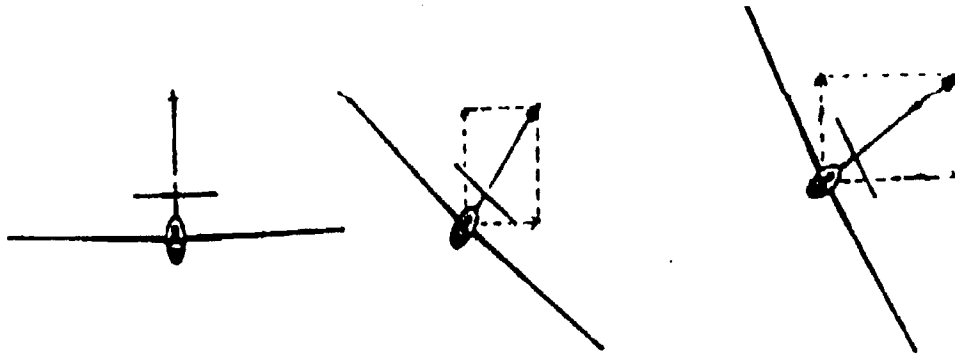

FIGURE 8-1
a. Normal turns involve bank angles up to 30°. To turn, first clear in the direction of the turn. Then move the stick in that direction. As you deflect the ailerons, add rudder in the direction of the turn to counteract adverse yaw. Apply enough rudder to keep the yaw string centered on the wind shield. Apply rudder on the same side that you want the yaw string to move to be centered. Doing so makes for a **coordinated** turn. Remember this: **Whenever you apply ailerons, apply rudder in the same direction to keep the yaw string centered.** This rule applies whether you're rolling into or out of a turn. As you approach the desired bank angle, you must relax or even reverse the aileron and rudder inputs to avoid over-banking. In a bank, the total lift produced by the wings is a vector with vertical and horizontal components. It's the horizontal component of lift that turns the airplane (Fig. 8-1). Note: Once you are established in a stabilized turn, you do not need any rudder (i.e., neutralize the rudder pedals). You only need rudder when changing the bank angle.